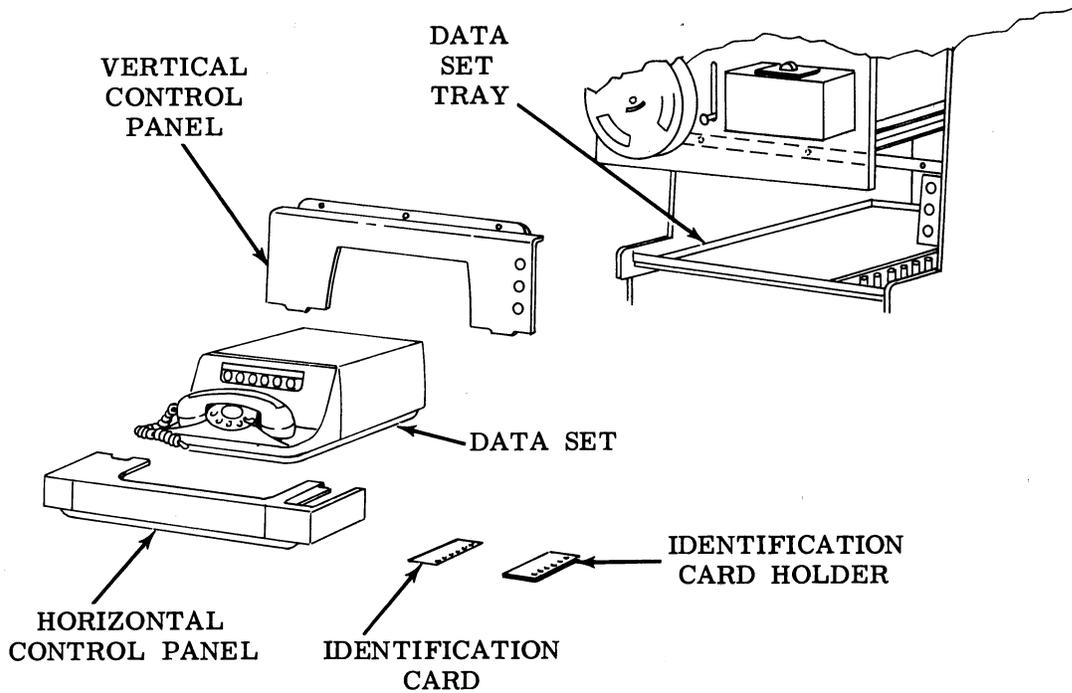

Figure 5 - Data Set Mounting
- (a) Remove the plastic identification card holder and the associated identification card from the horizontal control panel. Open the door at the bottom of the cabinet, remove the 2 screws that hold the horizontal control panel and pull the horizontal control panel forward to remove it from the cabinet. Pull open the tape transport several inches and remove the 3 screws that hold the vertical control panel and remove the vertical control panel from the cabinet. The switches that protrude through the panels will remain mounted in the cabinet. See Figure 5.